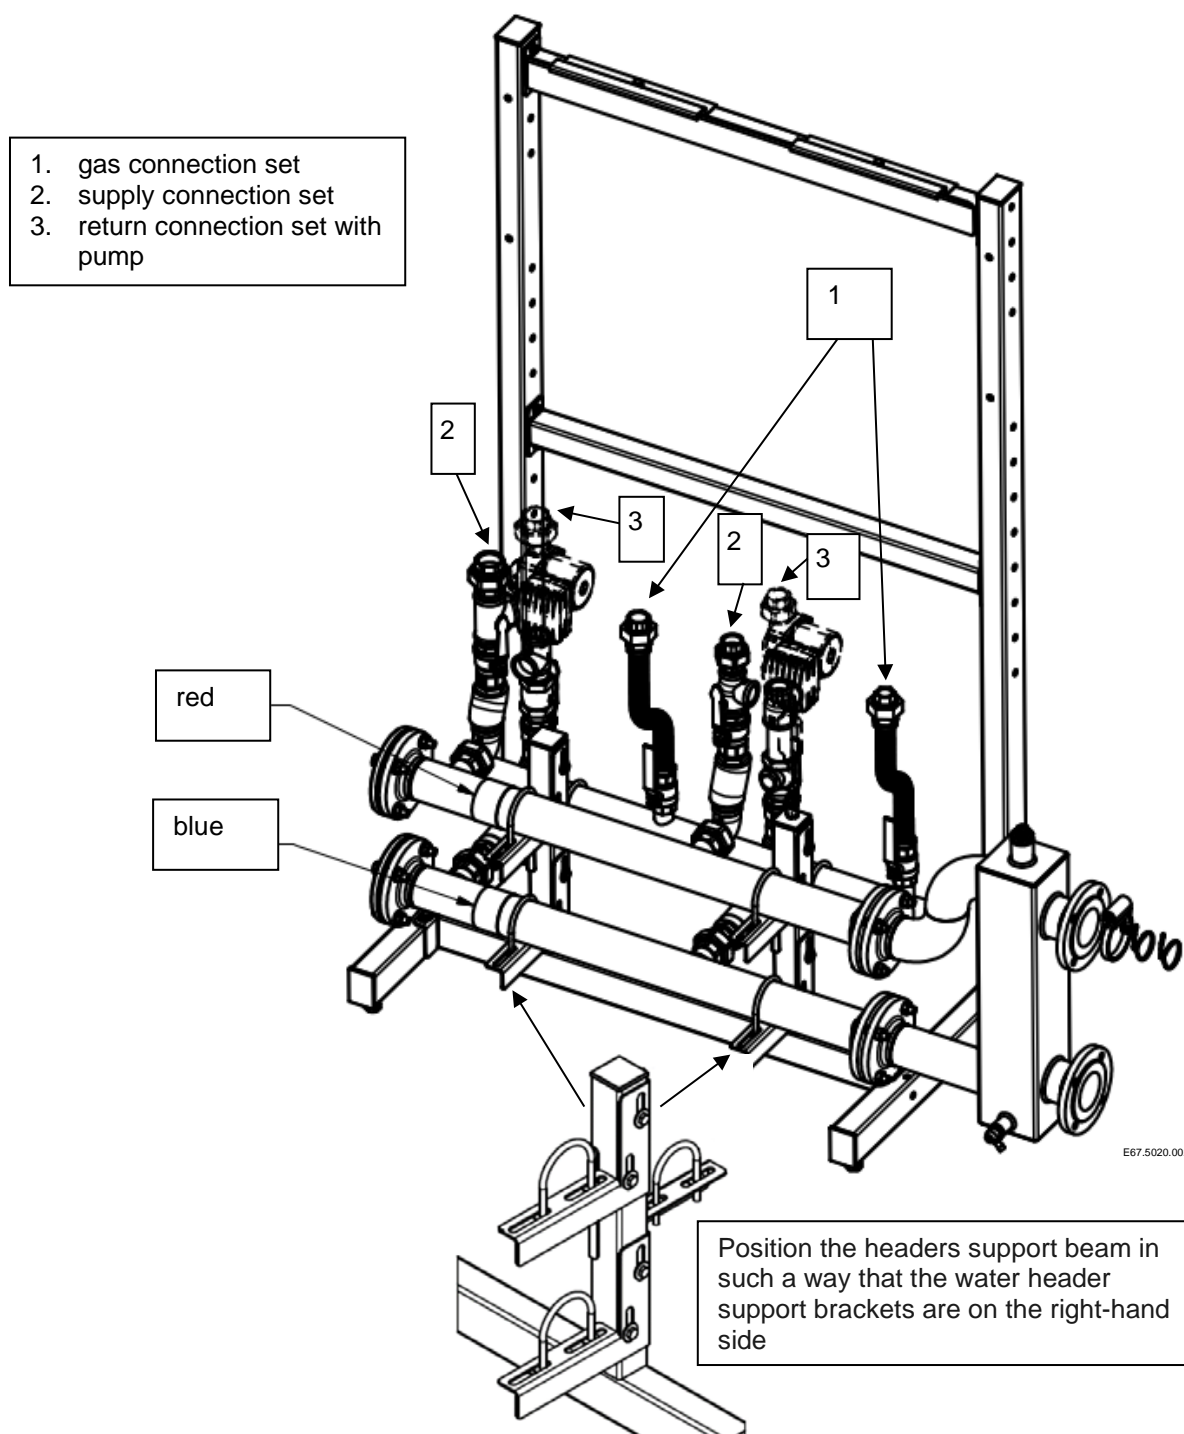

Figure 7.3 Headers and connecting sets
3. Mount the connecting sets for the return header. See also Figure 7.3.
6. Mount the connecting sets for the supply header. See also Figure 7.3.